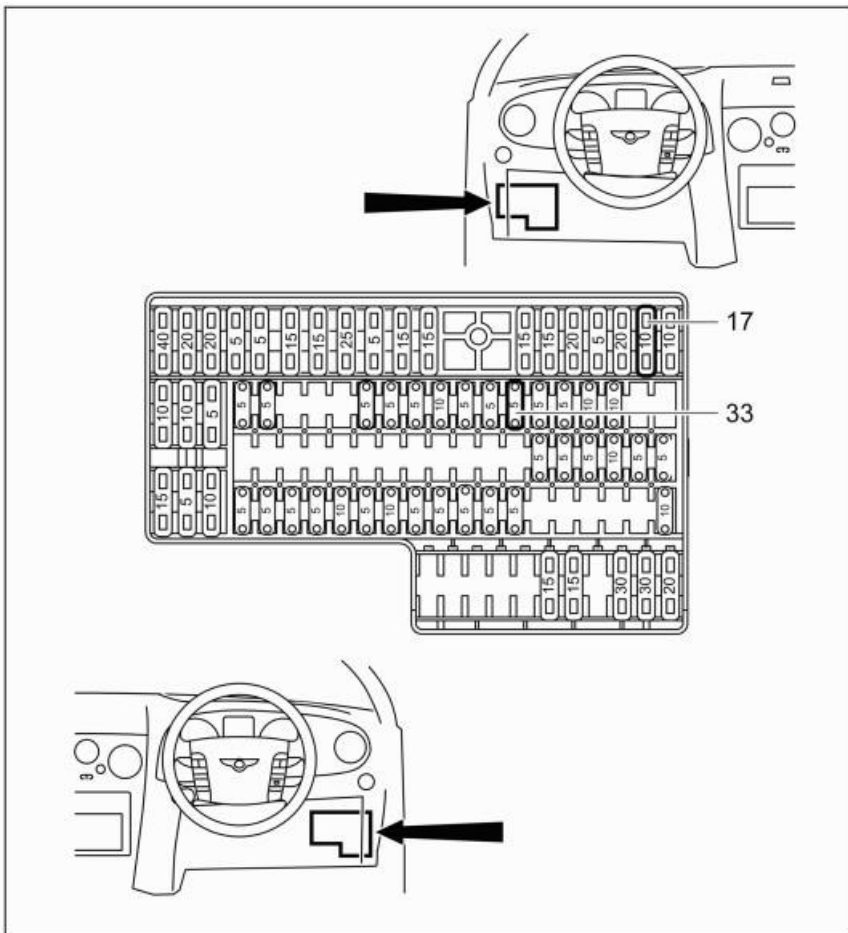

Figure 2
- c. Remove fuse 17 (10A) and fuse 33 (5A) from the drivers facia fusebox. (see Figure2) Once the fuses are removed they can then be replaced